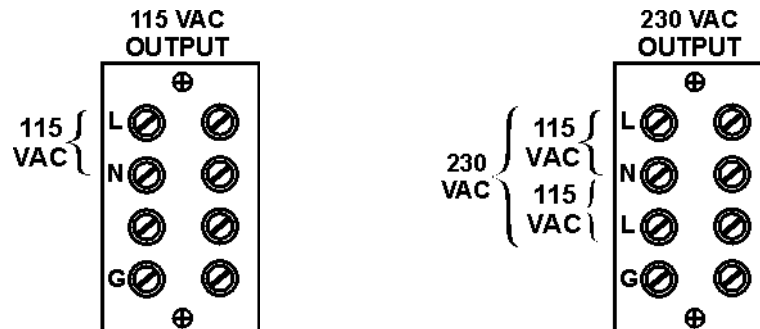

Figure 11. Output Connections for INV5000
- 14.4** For the INV2500, connect a three-wire AC output cable to the AC output line (black), neutral (white) and ground (green) terminals by means of the Anderson connectors (no. PP15/45 housings with no. 261G2 contacts). For the INV5000, connect the AC output cable to the proper output screw terminals. See Figure 11 for the correct connection for 115 or 230VAC output versions. Connect a load of approximately 10 amperes across the output of the INV2500 or INV5000.